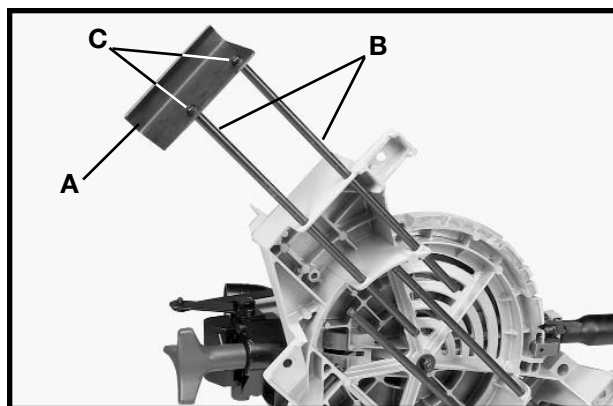

Fig. 5
Remove two screws from the ends of the extension rods (B) Fig. 5 that are attached to the machine.. Attach the table extension wing (A) Fig. 5 to the extension rods (B). Tighten screws (C). Attach the other table extension wing to the extension rods in the same manner.